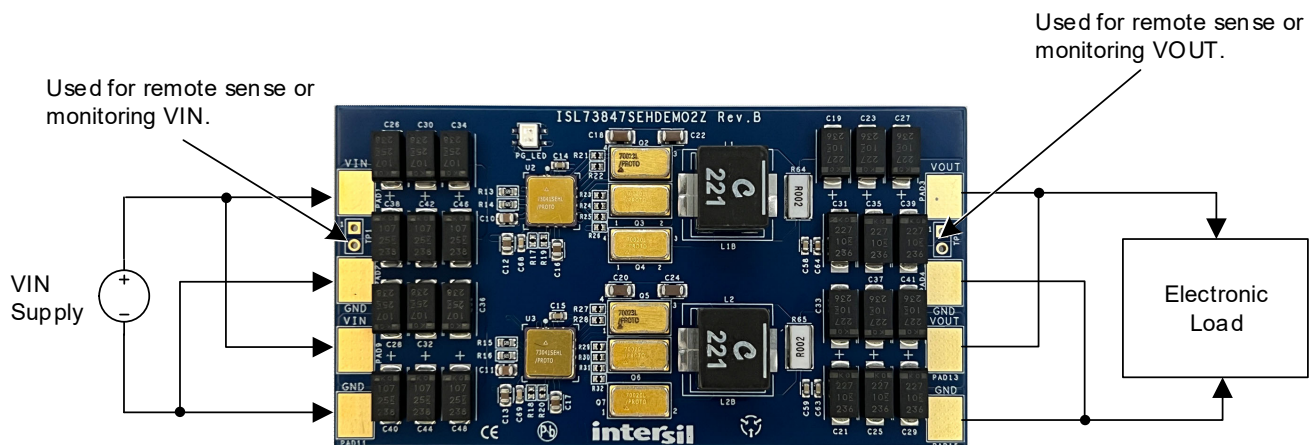

Figure 2. ISL73847SEHDEMO2Z Board Setup
1. Apply a 4.5V to 15V voltage to  $V_{IN}$  connectors, as shown in Figure 2. To use 4w sense lines from a power supply or a voltmeter to monitor the input voltage, solder a jumper to TP1.
2. If required, a resistor or electronic load can be connected to the  $V_{OUT}$  connectors, as shown in Figure 2. To use 4w sense lines from an electronic load, solder a jumper to TP2.